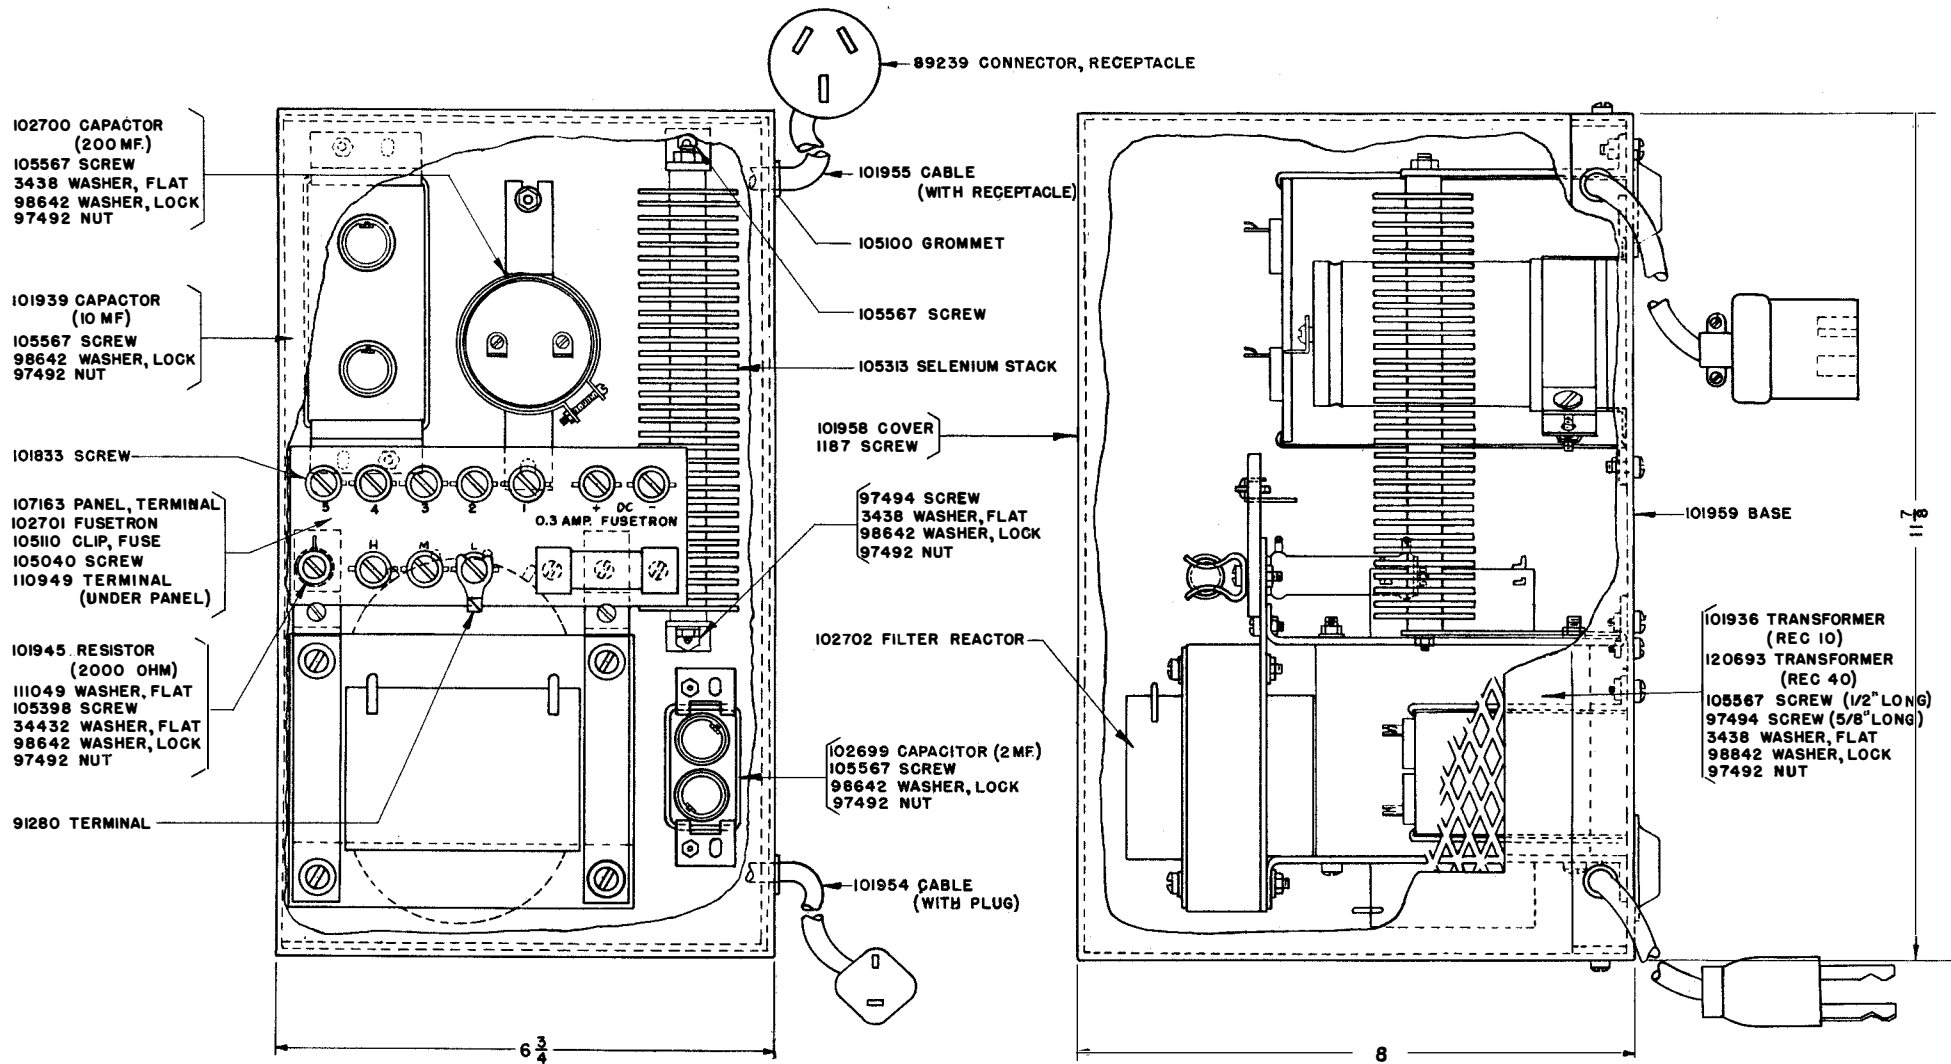

FIGURE 1
e. Wiring diagram 2019WD shows the actual and theoretical wiring of these rectifiers. Figure 1 shows part numbers, which also form a part of this specification.